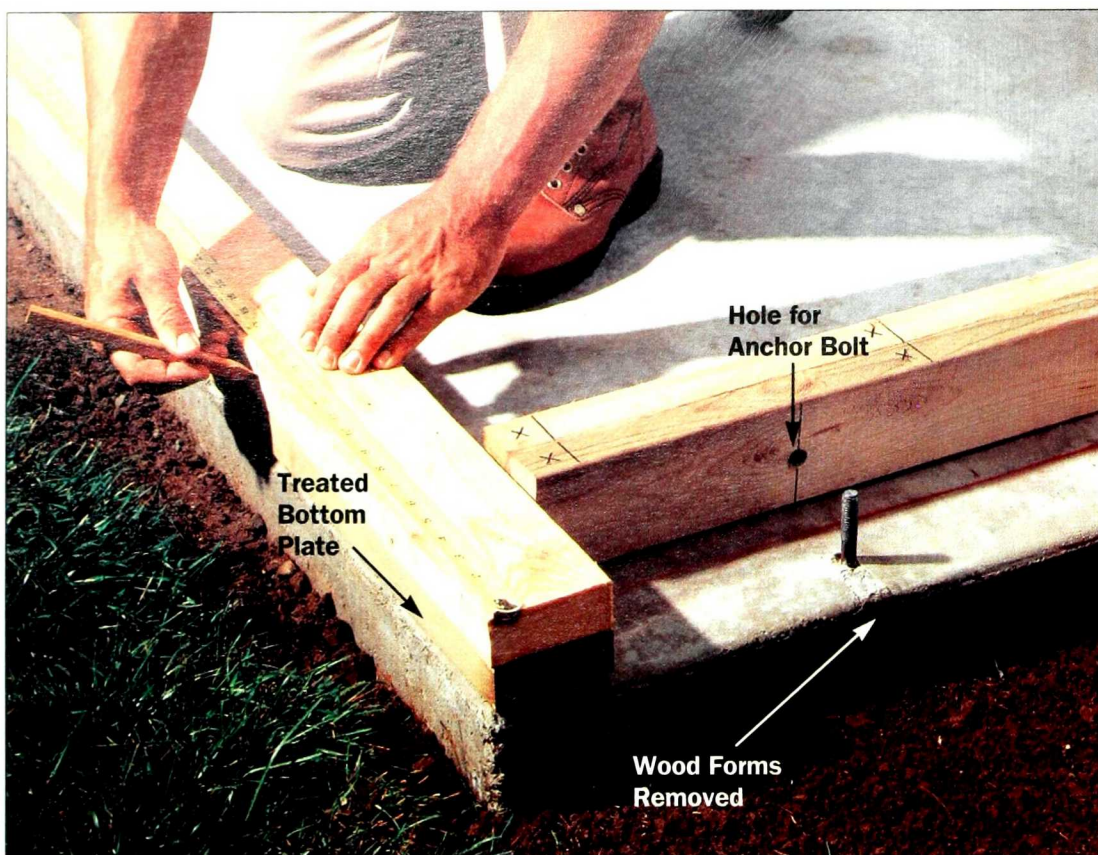

Figure 6: Mark the nailing plates in pairs to indicate the location of studs, doors, and windows. The bottom plate must be made of treated lumber.
- Cut four pairs of nailing plates (Figure 6) to length. Each pair consists of a bottom plate, which must be pressure-treated lumber, and a top plate, which doesn't have to be treated. Position each bottom plate on the edges of the slab, and drill holes in it to fit over the anchor bolts.